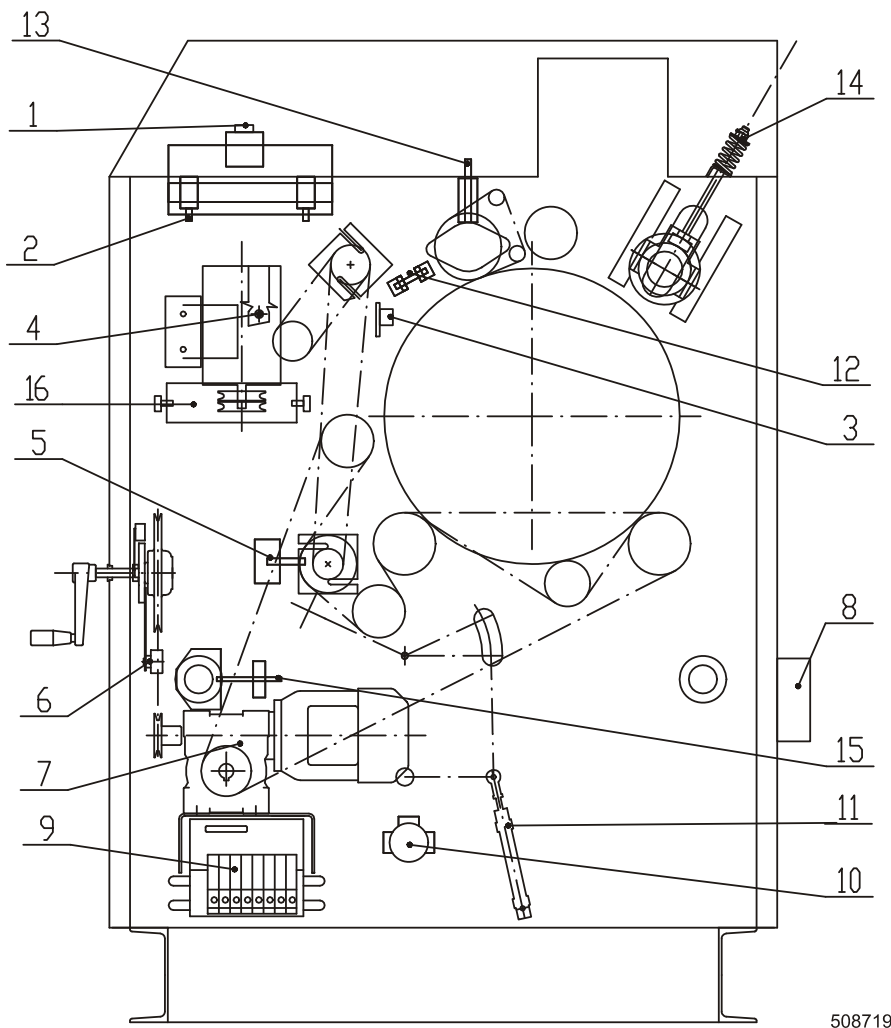

Fig. 5.2.3.A
Adjustment of the bridge motion forward / backwards is executed by the throttle valve of pneumatic cylinders, fig. 5.2.3.A, pos. 2. Cylinders are placed in the upper part of both stands of machine.
Tightening of folding table belts is executed by movement of bearing bodies of the front folding roller by screws, fig. 5.2.3.A, pos. 15.
1. Loosen tightening screws, fig. 5.2.3.A, pos. 15 of the folding conveyer front roller.
4. Tighten suitably all belts by force of tightening screws, fig. 5.2.3.A, pos. 15.